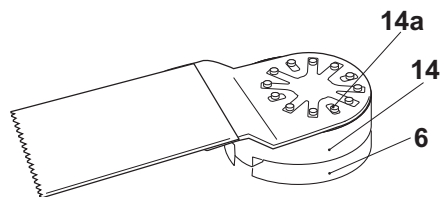

Fig. 11
- > Align the grooves of the compatible tool attachment with the pins of the tool holder adaptor (14a) and place the tool attachment onto the tool holder adaptor (14) (Fig. 11).